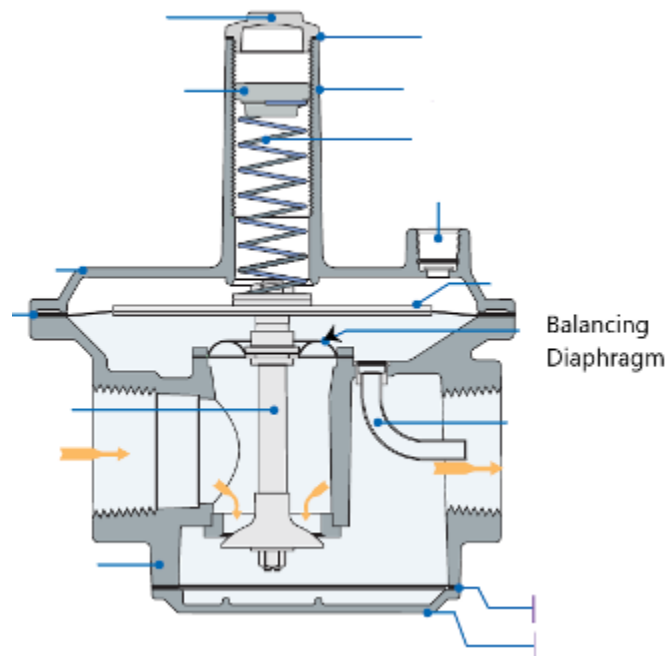

Figure 34. Balanced diaphragm regulator
Another method that regulator manufacturers use to overcome the effects of the inlet pressure on the valve seat is to add a balancing diaphragm (Figure 34). The inlet pressure exerted downwards on the inner valve disk also pushes upwards on the balancing diaphragm. The effective areas are equal, so the forces push equally in both directions. The balancing diaphragm is attached and sealed to the valve shaft and separates the lower main diaphragm area and the upper valve section. This design makes it possible to maintain steady outlet pressure control with widely varying inlet pressures, and minimum lockup with either high or low inlet pressures.
- Figure 34. “Balanced diaphragm regulator” from Maxitrol is used and adapted for educational purposes under the basis of fair dealing.